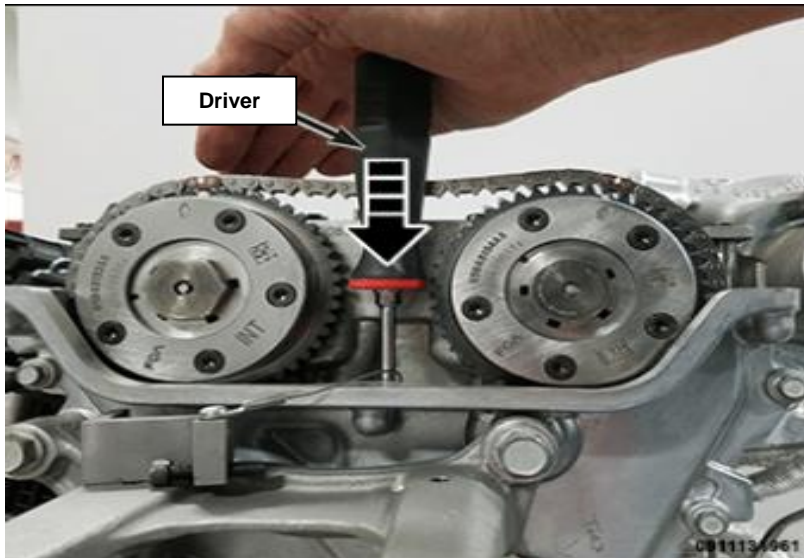

Figure 20 – Tension Holder Verification
53. Use a driver to press down the chain tensioner holder and verify that it is secured and not coming out (Figure 20).